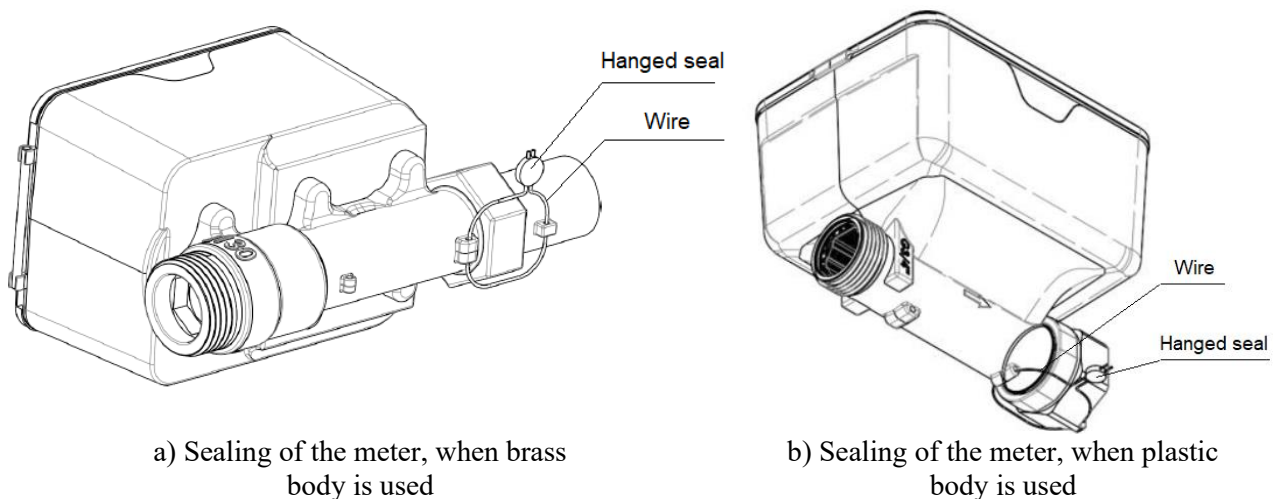

Fig. 3. Sealing of the water meter QALCOSONIC W2 after installation
- see Fig.1– Fig. 3 of this appendix.
Holes in the meter body are provided for sealing after installation (Fig. 3 a and b).